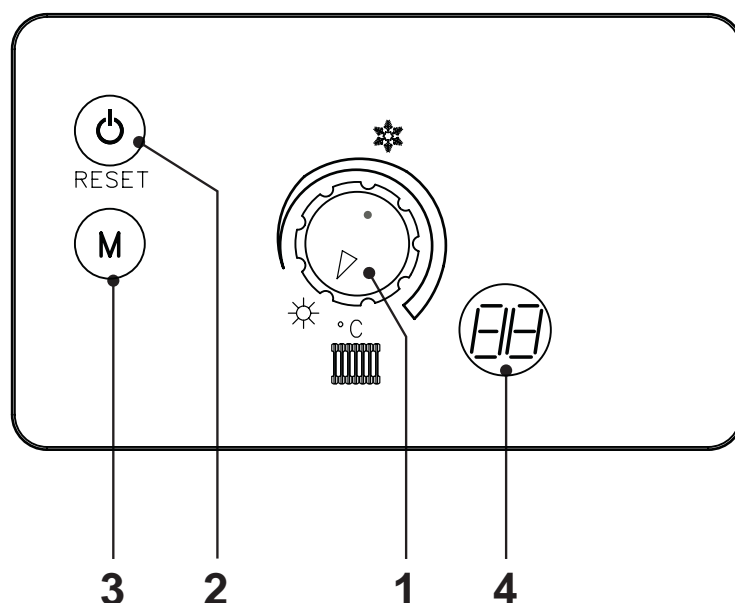

fig. 1
Press the  key for 5 seconds (see fig. 1).
To set the system delivery temperature, turn the knob (ref. 1 - fig. 1). It can be varied from a minimum of 30 °C to a maximum of 90 °C.
To select Summer/Winter, use knob 1 (fig. 1).
The boiler is equipped with an advanced self-diagnosis system. In the event of trouble with the boiler, the display will show the fault code. There are faults that in order to restore operation it suffices to press RESET  (2 - fig. 1); if the boiler fails to start, it is necessary to resolve the fault indicated by the operating LEDs (faults from 1 to 25); other faults cause temporary shutdown that are automatically reset as soon as the value comes back within the boiler's normal working range (faults from 30 to 39).